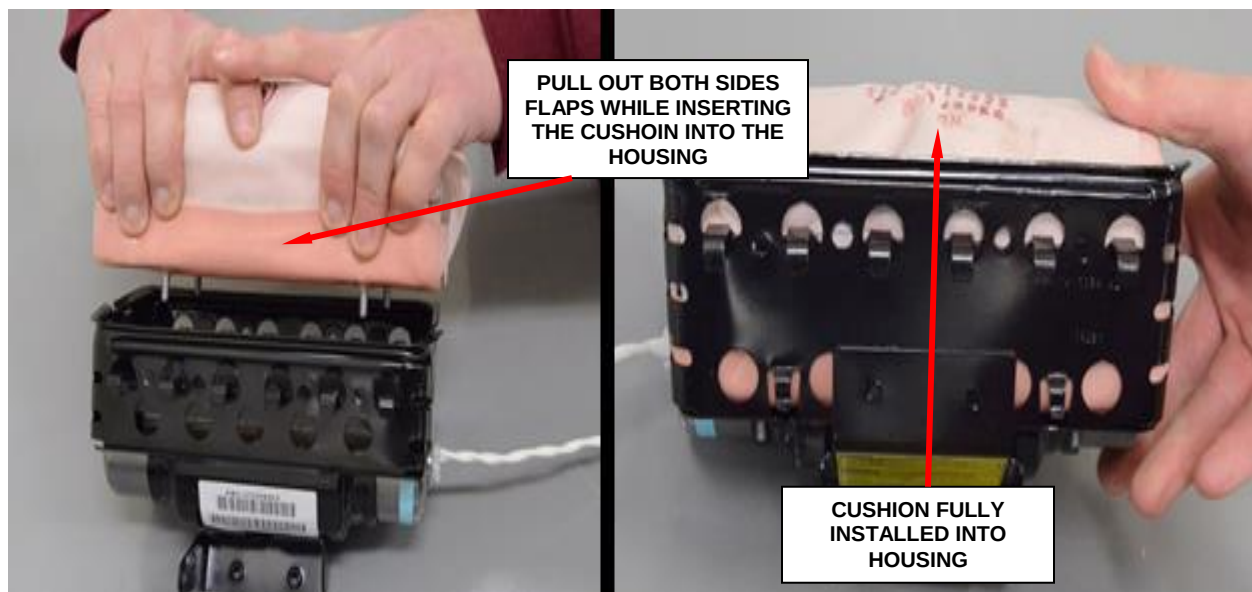

Figure 122 - Side Flaps Must Be Held Out
- l. Insert the cushion, pulling out both side flaps (Figure 122).